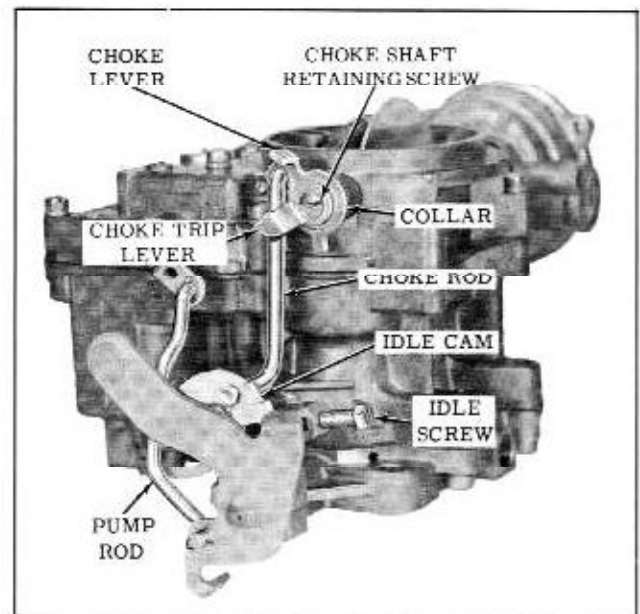

Fig. 8-81 Choke Rod Assembly
2. Insert the choke rod into the upper choke lever and install the idle cam on the lower end of the lever; then attach idle cam to float bowl, retaining with the idle cam screw. (Fig. 8-81)